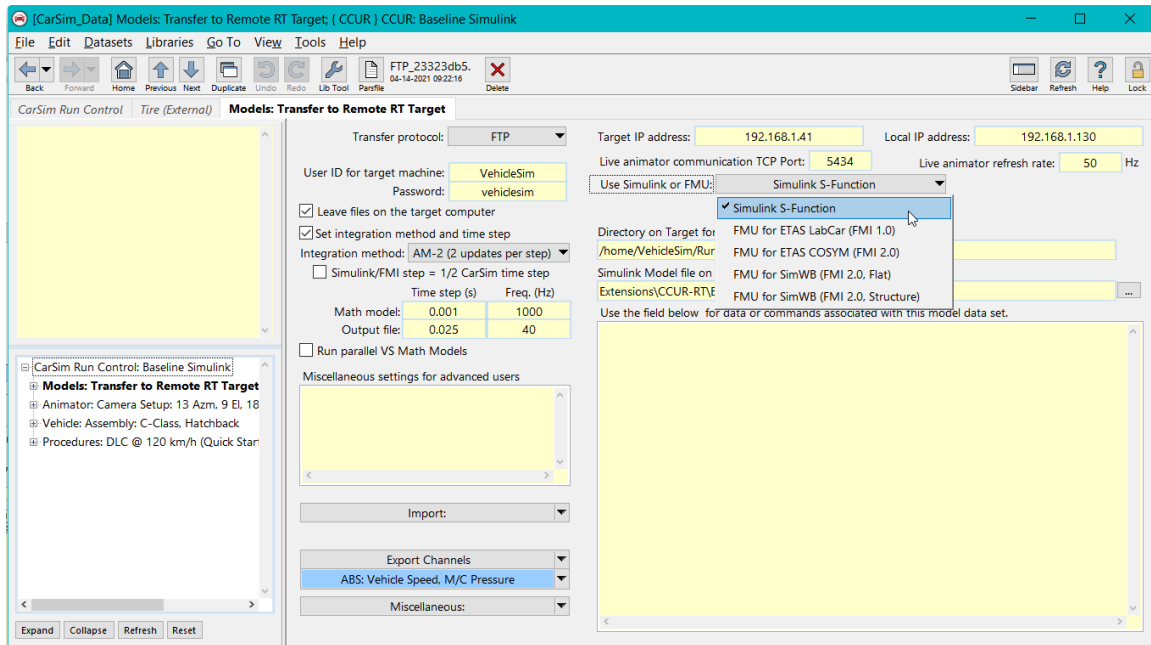

Figure 9. Models: Baseline Simulink.
3. Select then click the **CCUR: Baseline Simulink** blue link to go to the **Models** dataset (Figure 9). Make sure Simulink S-Function is selected for **Use Simulink or FMU** pull-down menu.